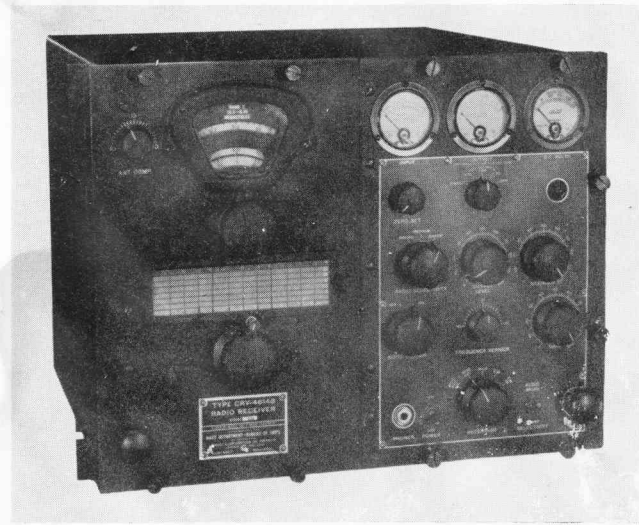

Figure 1-29. Radio Receiver Navy Model RBC-2, Mounted in Rack Mounting Cabinet Navy Type 10350
(21) NAVY MODEL RBC RECEIVER (Figure 1-29).—The Navy Model RBC series Radio Receiver is primarily designed for operation on all types of Naval vessels or in Naval radio shore stations, and is suitable for operation of a number of receivers on a single antenna, operation with narrow frequency separation when the receiver antenna is adjacent to transmitting antennae, and operation under continuous sub-